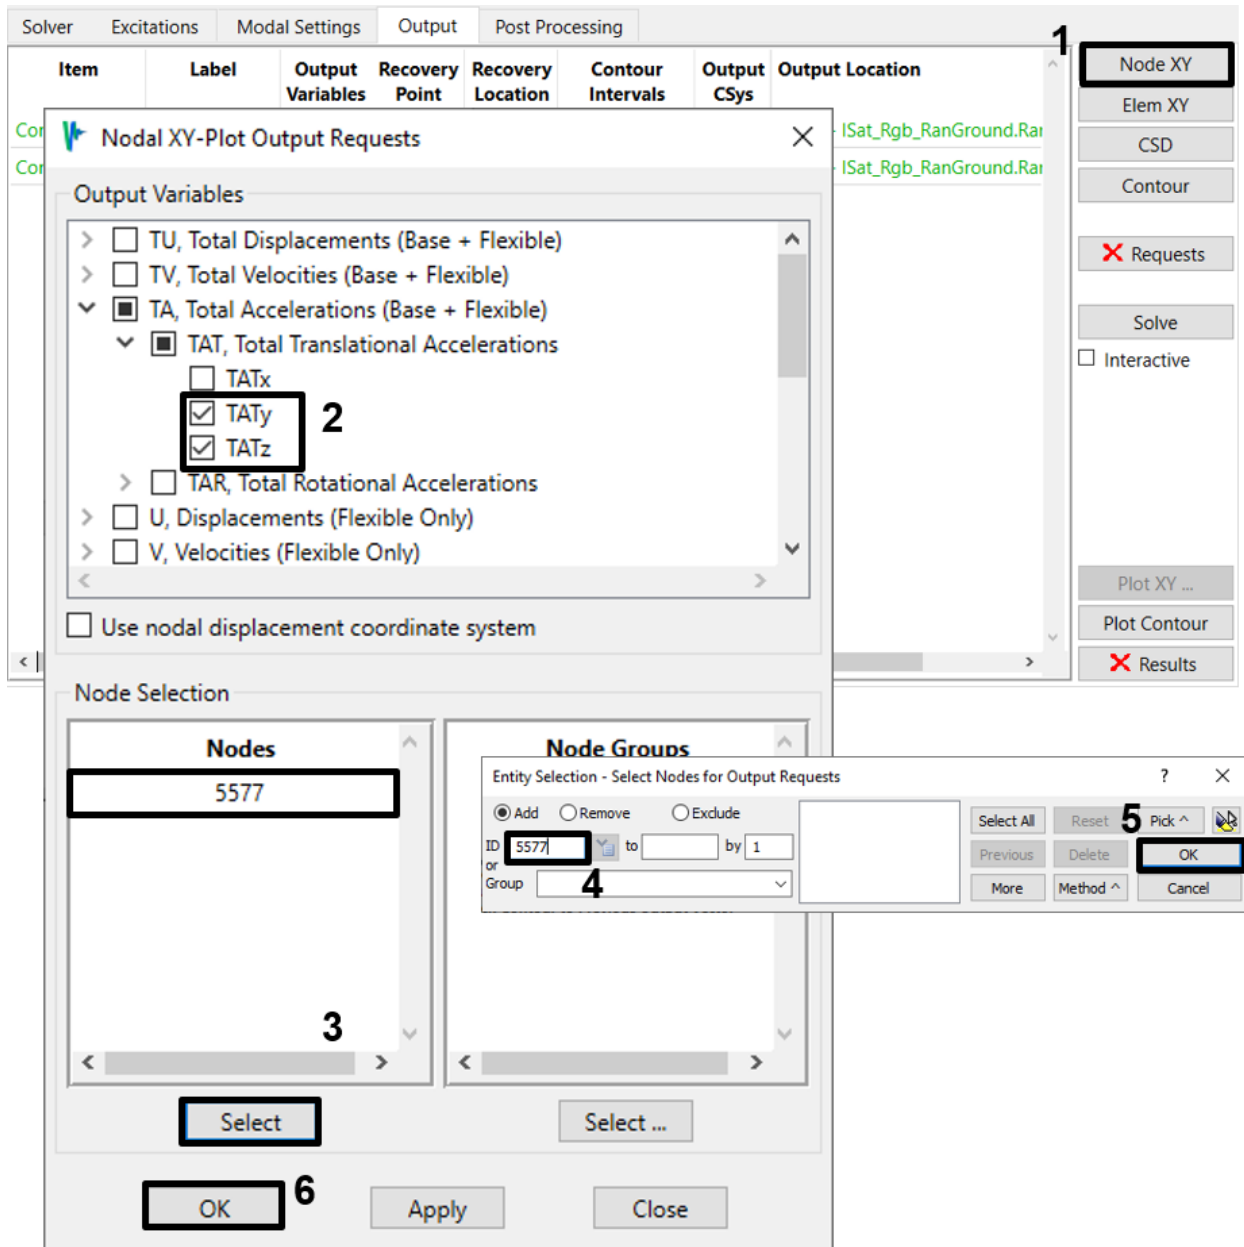
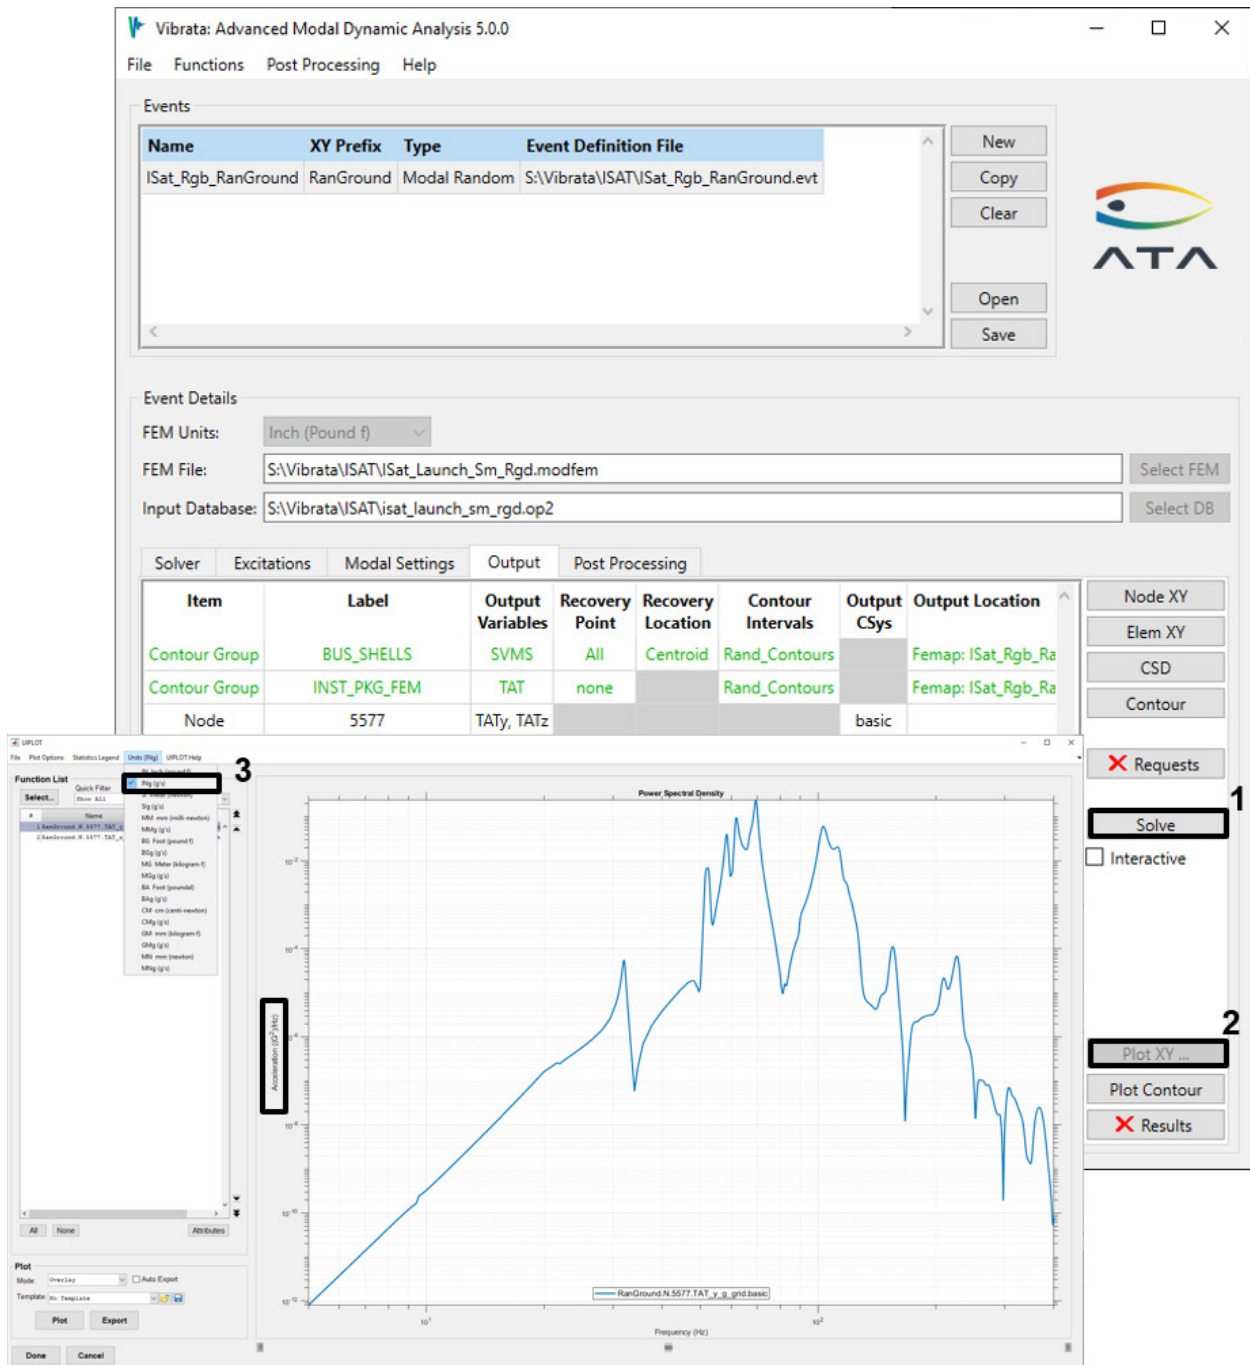

Figure 4-49. Request Y- and Z-direction total accelerations for node 5577.
Figure 4-50. Node 5577 total Y-acceleration in g^2/Hz units, rigid base.
8. The highest RMS acceleration occurs at node 5577 for Y-acceleration. That node also shares the highest Z-acceleration, although it is lower than the Y-direction. You would like to know the frequencies at which the largest responses occur, so create a Node XY output request for that node and those directions (Figure 4-49). (You can request X-acceleration if you wish, but it will clutter the plotting displays.) Solve this new request and plot the Y-acceleration function (Figure 4-50). Set the display units to "IN (G's)" to see the responses in g^2/Hz rather than $(in/s^2)^2/Hz$.